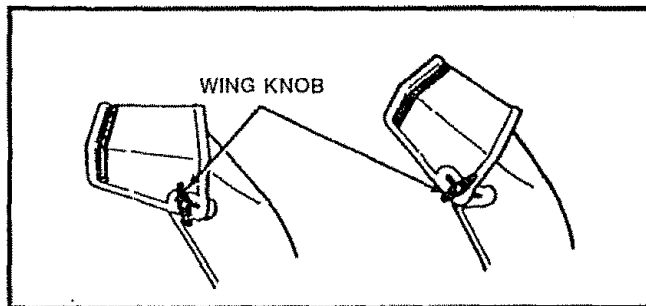

FIG. 9
- Loosen the wing knob on the chute deflector and move the deflector to set the distance. Move the deflector **UP** for more distance, **DOWN** for less distance. Then tighten the wing knob (Fig. 9).